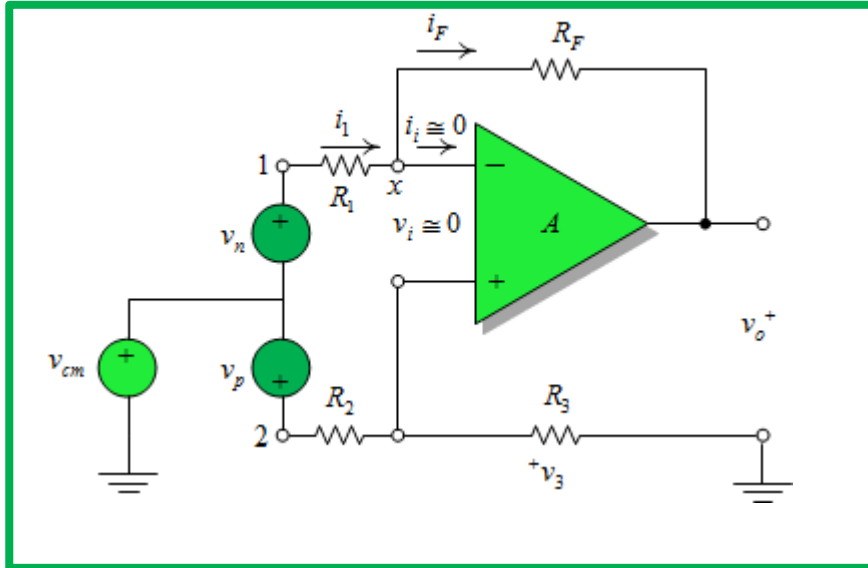

Fig. 10: A direct-coupled differential amplifier.
- The direct-coupled differential amplifier shown in Fig. 10 is widely used in instrumentation.
- ❑ In Fig. 10, voltages v_1 and v_2 represent variables measured at two points in a complicated system, like the human body.
- ❑ In the circuit of Fig. 10, assume an ideal op amp, $v_i = 0$ and the potential at node x is equal to the voltage across R_3 , or